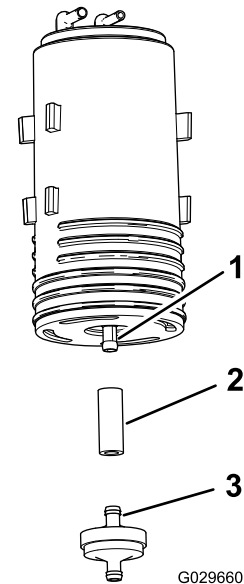

Figure 45
- Remove the carbon-canister filter and the short section of hose from the lower fitting of the old carbon canister (Figure 45).
- Install the hose onto the lower fitting of the new carbon canister (Figure 45).
- Insert the fitting of a new carbon-canister filter into the hose (Figure 45).